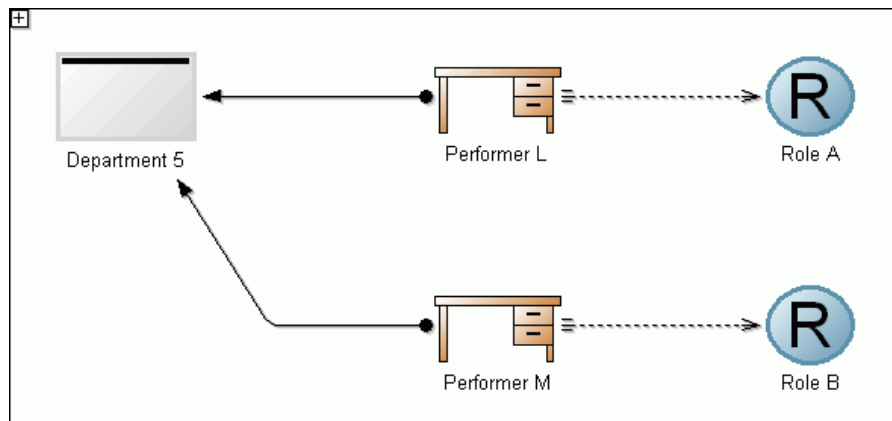

Figure 401: Example model in the ADL file (Variant 2)
**Variant 2:** A model "Example model 1" of the type "WE model" is stored in the ADL file, which is different from the model stored in the database, since it does not contain the connector from the object "Performer L" to the object "Role B" (see fig. 401).
When the option **"Delete not updated connectors" is activated**, the result of the **Variant 2** equals the contents of the model stored in the file (see fig. 401), since the connector from the object "Performer L" to the object "Role B" is not contained in the model to be imported.